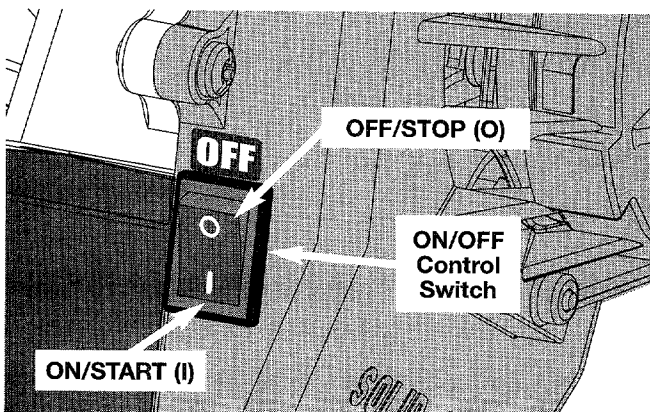
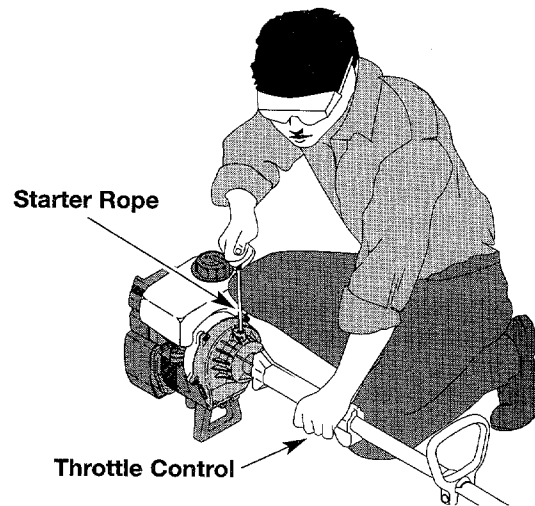

Figure 7
Figure 9
**WARNING:** Avoid accidental starting. Be in the starting position when pulling the starter rope. See Figure 9. The operator and unit must be in a stable position while starting to avoid serious personal injury.
2. The On/Off Stop Control is always in the START (I) position on units with a momentary switch.
**NOTE:** Units with positive switches must be pressed into the START (I) position. See Figure 7.
5. With the unit on the ground, squeeze the throttle control and pull starter rope briskly. See Figure 9. Continue pulling until the engine sounds as though it wants to run (normally 2 to 5 pulls).
7. Pull starter rope briskly 1 to 3 times to start the engine. See Figure 9.
**NOTE:** If the engine floods while trying to start, place the choke lever in the RUN position (C |↑|). Squeeze the throttle control. Pull the starter rope briskly. The engine should start within three (3) to eight (8) pulls.
**NOTE:** Using FULL Choke position (A |←|) is unnecessary when starting a warm engine. With the On/Off Stop Control in the START (I) position, start in PARTIAL Choke position (B |↘|). After starting, place the choke lever in the RUN position (C |↑|). See Figures 7 and 8.
1. Release your hand from the throttle control. See Figure 9. Allow the engine to cool down by idling.
2. For those units with momentary switches, press and hold the On/Off Stop Control in the STOP (O) position until the engine stops. See Figure 7.
**NOTE:** Units with positive switches must be pressed into the STOP (O) position. See Figure 7.